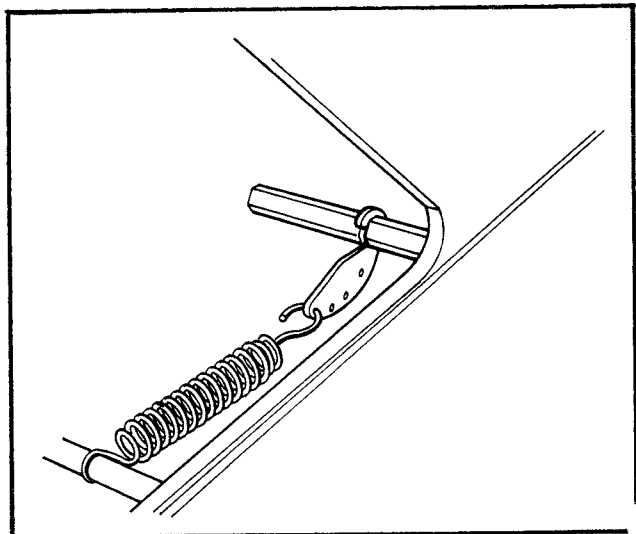

Figure 15
**Removing the spring end loop from the spring holder** and placing loop in other holes provided, as shown in Figure 15, **will decrease the spring pressure**.